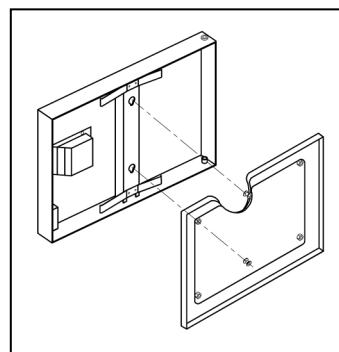

Figure 6-1
- a. Remove the door gasket assembly (see Figure 6-1).